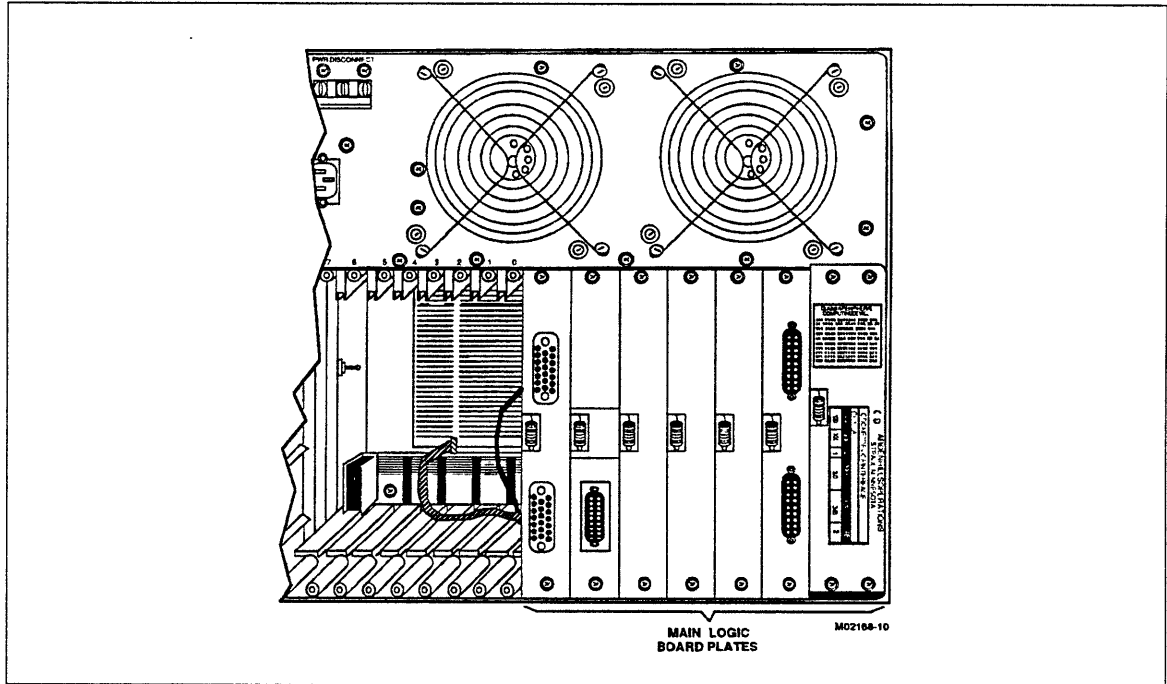

Figure 9-10. Main Logic Board Filler/Retainer Plates
6. Remove eight filler/retainer plates on back of DI by removing two screws (per plate) that attach each filler/retainer plate to DI base (figure 9-10).